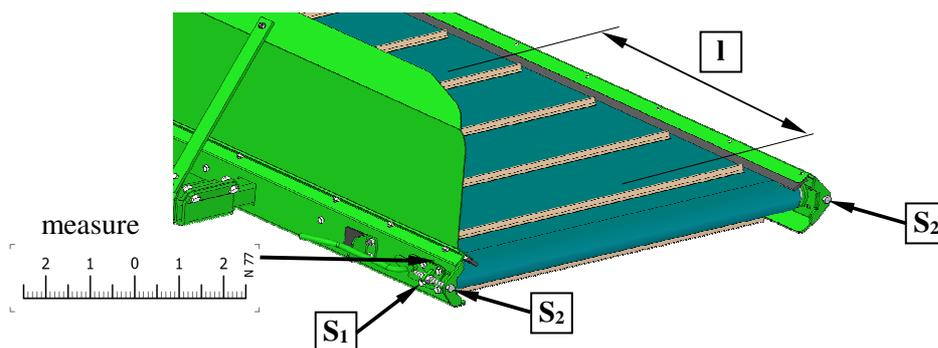

Fig. 47.
1. Mark two lines on newly mounted belt in intervals of $l = 3' 3''$ (Fig. 47).